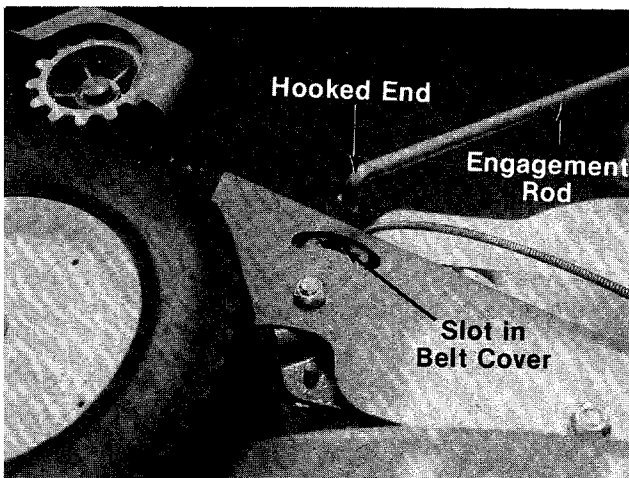

FIGURE 6.
- ← 8. Hook the end of engagement rod into idler bracket located inside slot on belt cover. See figure 6.